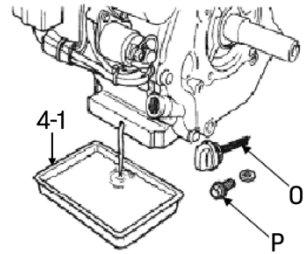

Fig. 4
The oil must be drained from the oil drain plug (P) (Fig. 4).
1. Remove the dipstick (O).